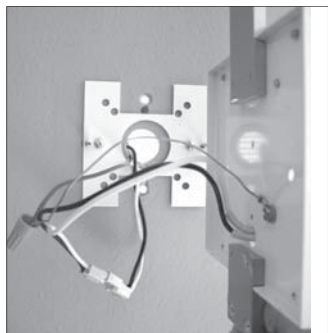

Figure 2
Step 4 Using supplied luminaire disconnect for wire connections, attach the white fixture wire to the neutral supply wire (typically white), and the black fixture wire to the hot supply wire (typically black). Black wire is connected to the section of the luminaire disconnect marked with a "B" and a black solid line. Connect the fixture ground wire to the ground supply wire or the ground screw in the outlet box. (Figure 2)